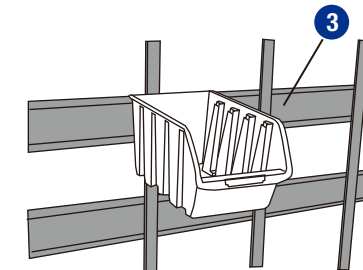

Fig. 4
Arrange the bins on the storage rack as desired. Each bin has a small lip located on the rear side as shown in Figs. 4 and 5. Slide this lip over the hanging bar (3) making certain that the bin is securely in place.